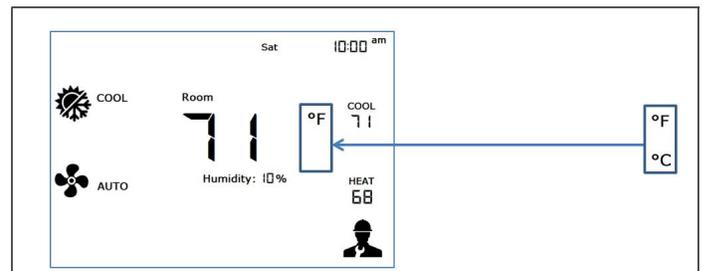

Figure 3-15 - Temperature Unit Selection
Prior to device restart, the display will show "--" to indicate that the device is about to reboot. (See **Figure 3-15**). When the device is rebooting, the display will turn off for approximately a few seconds until reboot operation has completed.
The temperature unit can be changed to either °F unit or °C unit. To select one or the other, press the unit indicator on the display (see **Figure 3-15**), either °F or °C. The temperature unit will toggle from one to the other each time the unit is pressed.
- On the main display, the clock at top right shows the actual time. To change or update the time, press the clock on the display (see **Figure 3-15**):